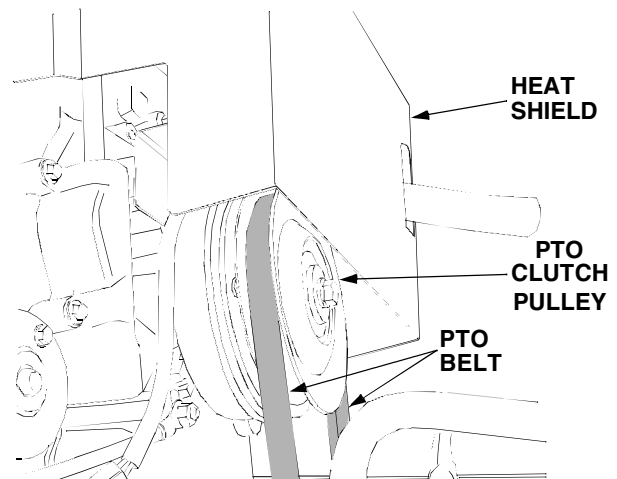

Figure 6-26
- Loop the PTO belt with the narrow side of the 'V' belt inward; then maneuver the loop of the belt up between the front of the PTO pulley and the heat shield on the front of the engine, and place the belt into the groove of the PTO pulley. See Figure 6-26.